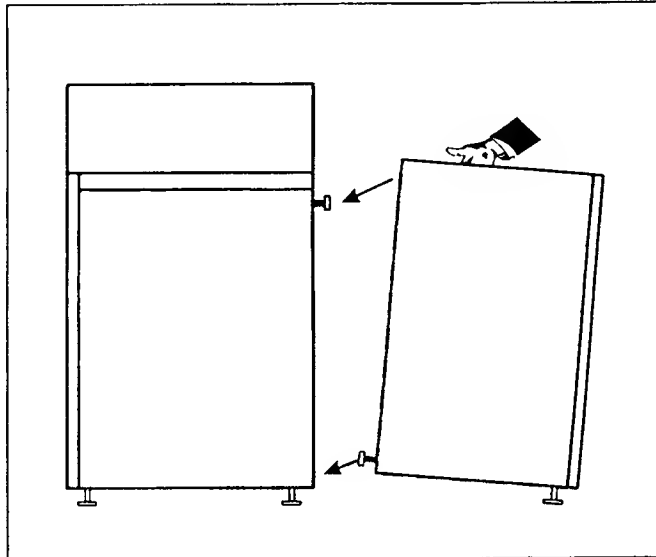

Figure 2-15. Attaching the Main Weldment Assembly.
- c. Insert the screws into the key slots by holding the main weldment from its top brace with both hands first. Align the bottom screws to the holes in the back panel of the printer stand. Insert lower screws into the key slots. Then while holding the main weldment, repeat the operation with the top screws in the back of the printer. Lower the weldment into place. Ensure the weldment is well seated (Figure 2-15). Do not tighten the screws yet, in order to allow the power and ground cables be routed through the enclosure.